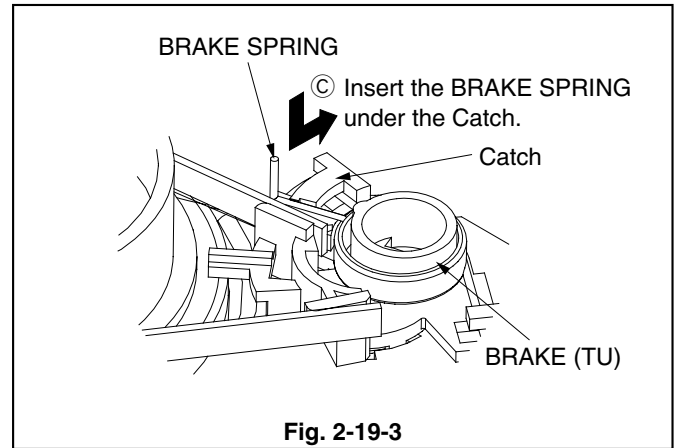

Fig. 2-19-3
2. Hook the BRAKE SPRING shown in the Fig. 2-19-3 to the catch of the BRAKE (TU).
4. Move the BRAKE SPRING in the Fig. 2-19-3 in the direction of the arrow (C) to release the Catch of the BRAKE (TU) and insert the BRAKE SPRING under the Catch.